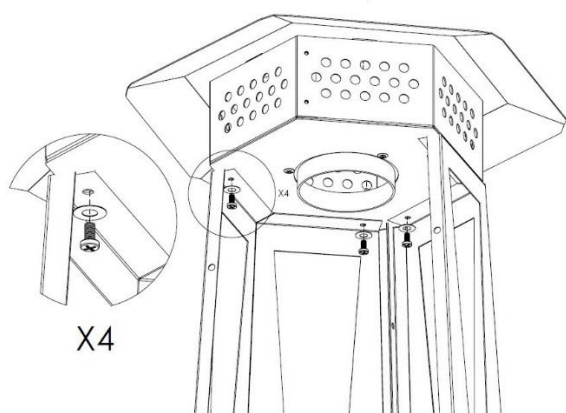

Fig. 8
8. Mount the heater chimney (KO) on the top metal pieces using 4 screws M5 (ŚM5) as in fig. 8.